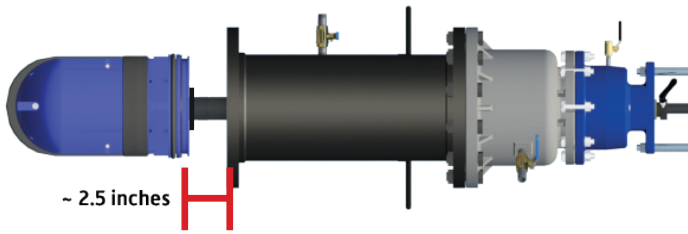

Figure C-6
C.12) Insert the assembled valve cartridge and insertion tool through the insertion housing / tapping assembly until the top of the valve cartridge is approximately 2.5" from the bottom flange of the insertion housing. Make sure the shorter, truncated side of the valve cartridge, marked with a star, is facing upwards (see Figure C-6).